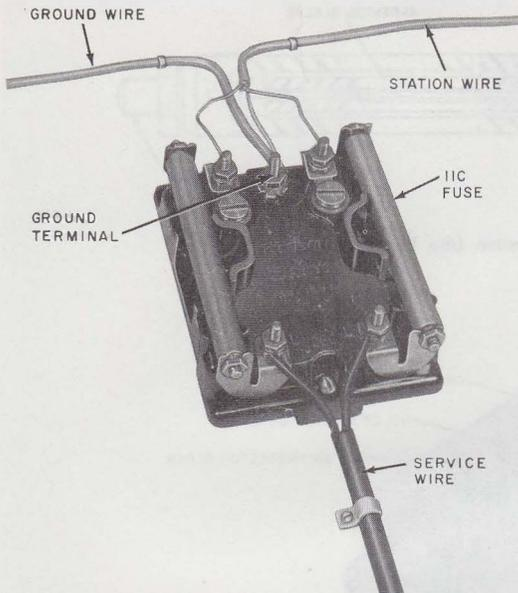
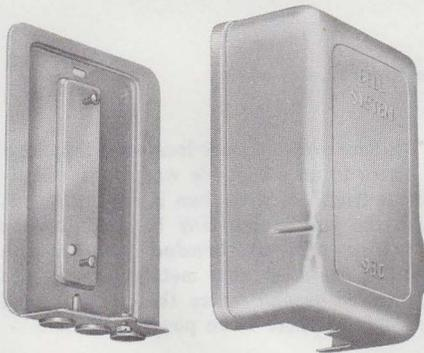

Fig. 38—106C Protector
Fig. 39—93C Protector Mounting
5.01 The 1293C protector (Fig. 37) is used for outdoor installations, and the 106C protector (Fig. 38) is used for indoor installations. These protectors are the same except that the 1293C protector is comprised of a 106C protector enclosed in a 93C protector mounting (Fig. 39).